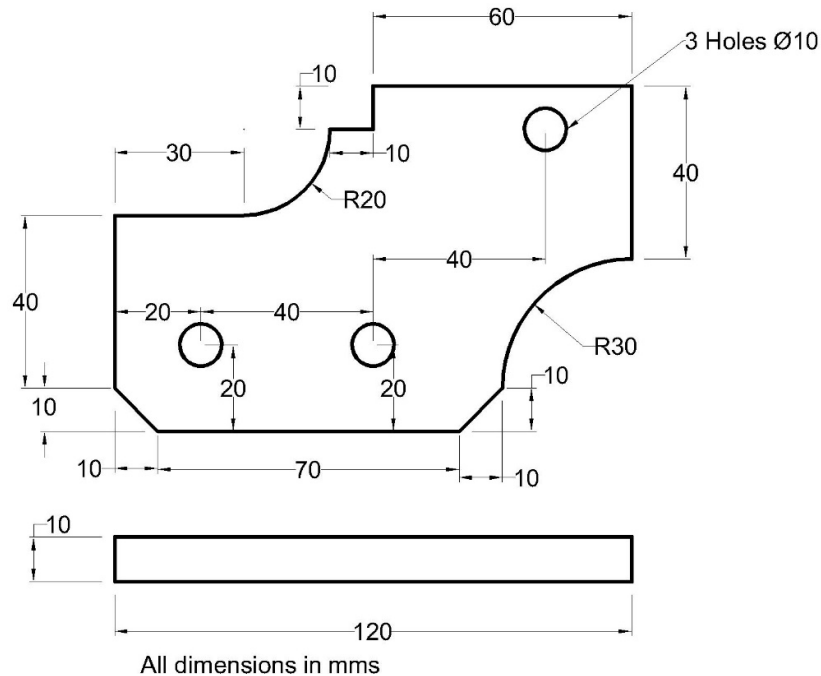

Figure Q4(c)
- c) Figure Q4(c) is an illustration of a billet that is to be milled on a three axis CNC machine. Using the program table format provided in Table 1, write a program that can be used to effectively mill the profile. (14 marks)